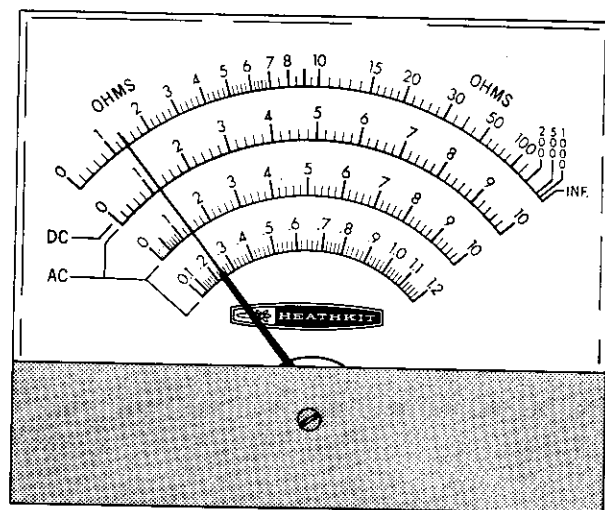

Figure 4
- ( ) Adjust the AC CAL control (on the circuit board) for a meter reading of 120 volts on the black scale (this is a reading of 1.2, or one scale division above the numeral 1, as shown in Figure 4). If the line voltage is known to be other than 120 volts, adjust for this value.